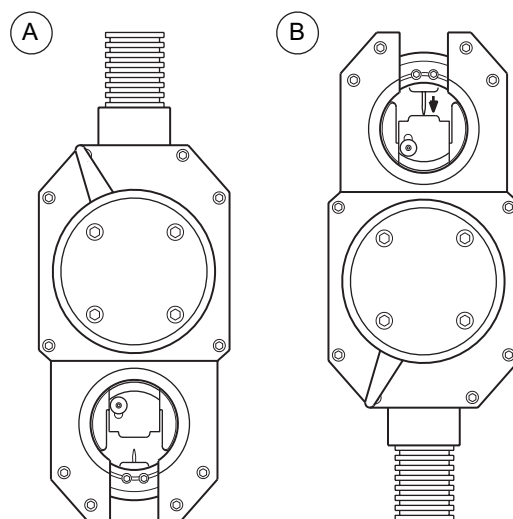

Figure 9 Setting the Arc Gap
1. Use **JOG** to position the rotor as shown in Figure 9. This allows access to the electrode clamping screws.
2. Insert the arc gap gage into the rotor. See Figure 9(A).
3. Tilt the weld head upward. Loosen the electrode screw allowing the electrode to drop onto the gage surface. See Figure 9(B).